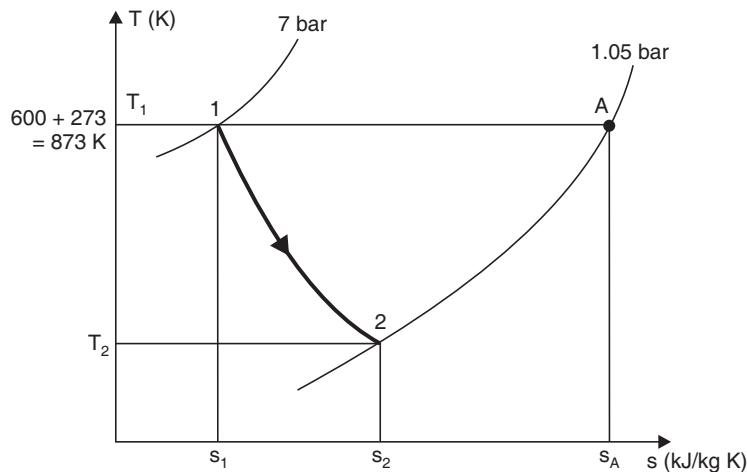

Fig. 3.34
**Solution.** The process is shown on a T-s diagram in Fig. 3.34.